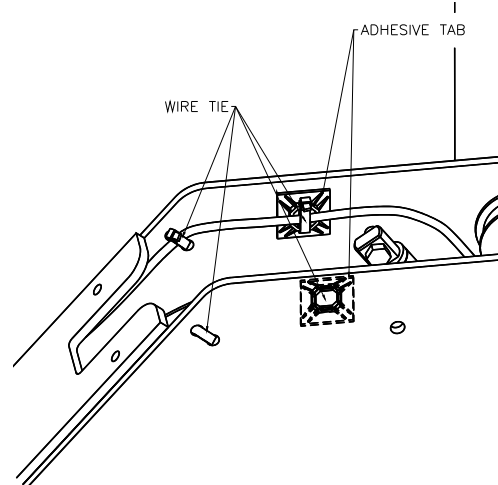

Fig 13 – 4mm Air Line Connection
- 37) Use the provided wire ties and adhesive tabs to connect the 4mm air line inside the ends of the front and rear cross beam to the side plate welds as shown in **Fig 13.**